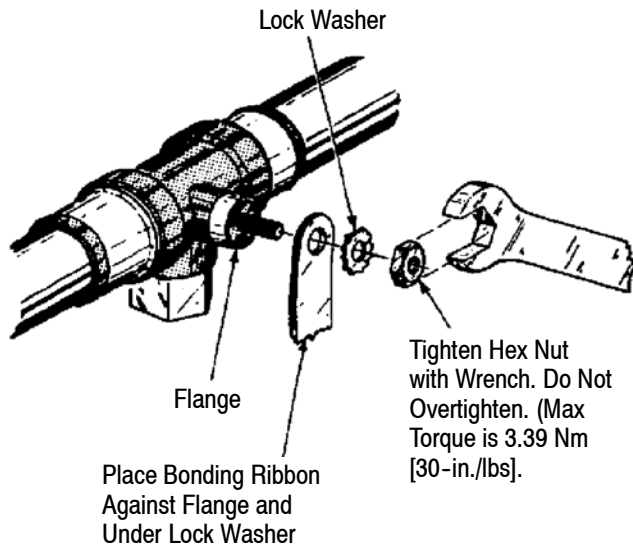

Figure 4
1. Remove hex nut and lock washer from grounding post. See Figure 4.